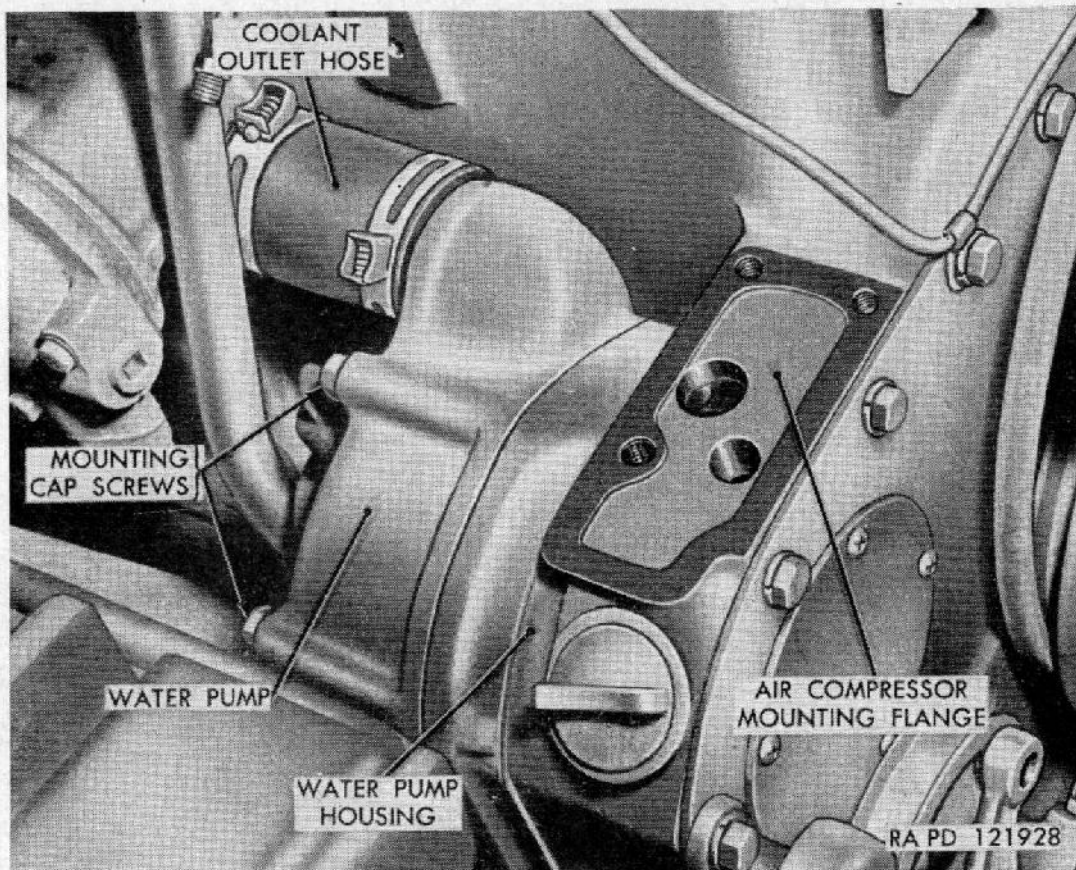

Figure 81. Engine water pump installed.
a. Cooling System. The cooling system of each engine consists of the water passages in the cylinder block and head, water outlet manifold, thermostat assembly, water pump, oil cooler assembly, radiator (center radiator of the three in each radiator assembly), and cooling fan, as well as the necessary water lines for circulation of the cooling liquid. The coolant is circulated by the water pump driven by the timing gears (fig. 81). It draws the coolant from the radiator and forces it through the oil cooler radiator to cool the engine oil as it is delivered to the engine. From there it passes into the cylinder block and cylinder head and out into the water outlet manifold (fig. 29). The thermostat (if the tractor is equipped with a thermostat) remains closed and coolant circulates through a bypass pipe and through the engine only until the engine reaches operating temperature. As the operating temperature is reached, the thermostat automatically opens to let the coolant pass into the water outlet manifold and to the radiator to be cooled. Part of the heated coolant also circulates through the fuel and air intake manifold to heat the fuel and air that is drawn into the cylinders. A bypass line in the system provides for circulation of coolant through the air compressor for cooling. The heated coolant is delivered to the radiator and the cooling fan draws air through the radiator, thus dissipating the heat and lowering the temperature of the coolant passing through the radiator from top to bottom. Each engine has an independent cooling system.
e. Water Pumps. The water pump, located on the timing gear cover of each engine, is of the centrifugal type (fig. 81). The impeller is driven by the engine timing gears. The inlet elbow of the pump connects to the radiator. The coolant is discharged from the water pump into the oil cooler through the coolant outlet hose (fig. 81). A drain hose, connected to the bottom of the inlet elbow of each pump, connects to the water drain valve for that engine.
- (1) *Remove pump from left hand engine.* Open left engine compartment door. Drain cooling system (par. 131a). Remove air compressor (par 197). Remove engine oil cooler (par. 102b). Remove screw from clamp that connects coolant outlet hose to water pump (fig. 81) and remove outlet hose from water pump. Disconnect and remove water line connected to inlet elbow below water pump and air compressor. Remove engine maintenance plate under engine
(fig. 62). Reach up and remove the two cap screws that attach inlet elbow to pump. Remove five mounting cap screws and lock washers attaching pump to housing (fig. 81). Pull pump straight forward and out of the timing gear housing.
- (1) *Install pump on left hand engine.* Cement new gaskets to attaching flange of water pump and inlet elbow of pump. Insert pump drive gear into timing gear housing and install five attaching cap screws and lock washers (fig. 81). Reach up through hull bottom and connect inlet elbow to pump with two cap screws. Install engine oil cooler (par. 102b). Position coolant outlet hose on water pump and tighten clamp screw (fig. 81). Install air compressor (par. 197). Install and connect ends of water lines (fig. 120) to inlet elbow below water pump and air compressor. Fill cooling system